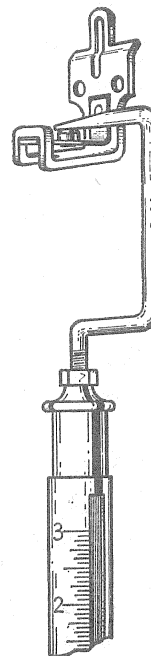

FIGURE 11
1. Check the tension of the hold-down bracket contact point (this must not be less than 11 oz.) using the spring scale as shown in Figure 11.
3. Check the riveting of glass bead (6) in the armature assembly (1). If this is loose, the armature must be replaced.